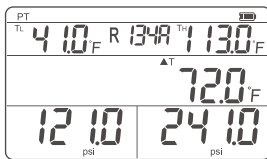

FIG.3 Diagram of Temperature Difference Sub Mode
3. Short press the **MODE** button to enter the temperature difference sub mode, The interface [FIG.3] displays the measured pressure, temperature and temperature difference values at the high and low pressure sides.